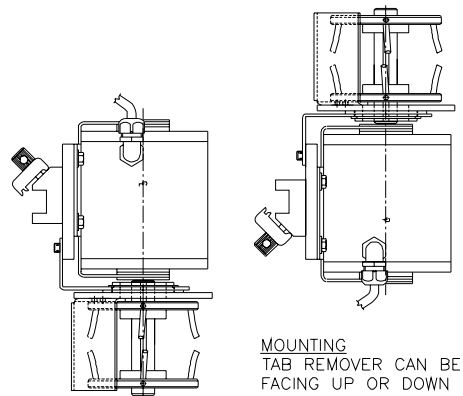

Figure 4-1. Motor Up Mounting vs Motor Down Mounting
2. Determine whether the unit will be mounted with the motor above or below the whips (Figure 4-1). There should be no interference between the TR500M and your machine.